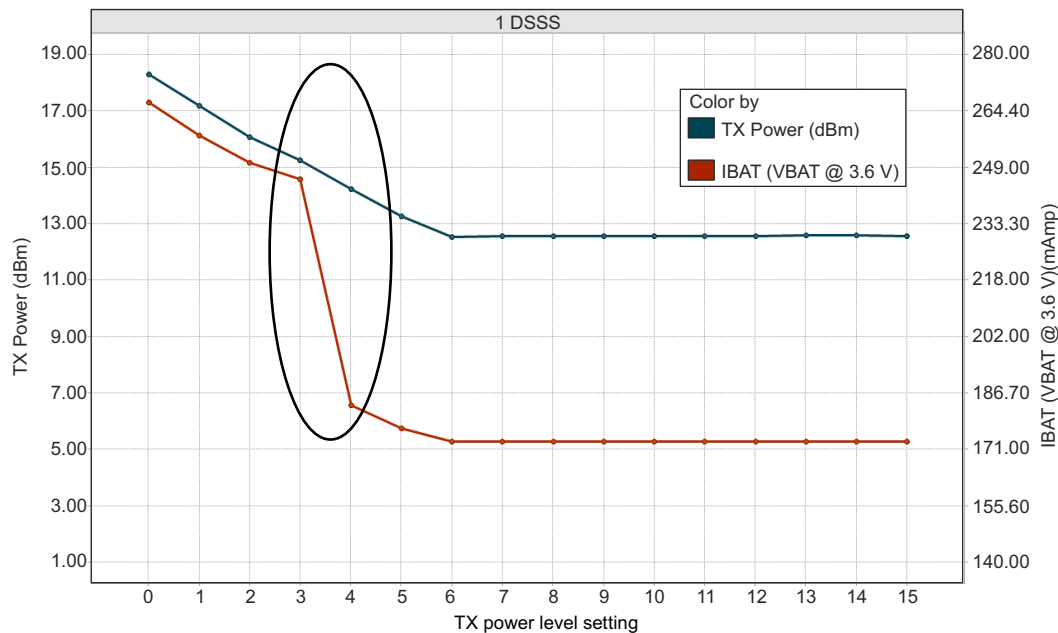

图 8-1. TX Power and IBAT vs TX Power Level Settings (1 DSSS)
- (1) TX power level = 0 implies maximum power (see 图 8-1, 图 8-2, and 图 8-3). TX power level = 4 implies output power backed off approximately 4 dB.
- (2) LPDS current does not include the external serial Flash. The LPDS number of reported is with retention of 256KB of MCU SRAM. The CC3220x device can be configured to retain 0KB, 64KB, 128KB, 192KB, or 256KB of SRAM in LPDS. Each 64-KB block of MCU retained SRAM increases LPDS current by 4 μA.
- (3) DTIM = 1
- (4) The complete calibration can take up to 17 mJ of energy from the battery over a time of 24 ms. In default mode, calibration is performed sparingly, and typically occurs when re-enabling the NWP and when the temperature has changed by more than 20°C. There are two additional calibration modes that may be used to reduced or completely eliminate the calibration event. For further details, see CC3120, CC3220 SimpleLink™ Wi-Fi® and IoT Network Processor Programmer's Guide.
- (5) The CC3220x system is a constant power-source system. The active current numbers scale based on the VBAT voltage supplied.
- (2) LPDS current does not include the external serial flash. The LPDS number of reported is with retention of 256KB of MCU SRAM. The CC3220x device can be configured to retain 0KB, 64KB, 128KB, 192KB, or 256KB of SRAM in LPDS. Each 64-KB block of MCU retained SRAM increases LPDS current by 4  $\mu\text{A}$ .
- (4) The complete calibration can take up to 17 mJ of energy from the battery over a period of 24 ms. Calibration is performed sparingly, typically when coming out of HIBERNATE and only if temperature has changed by more than 20°C. The calibration event can be controlled by a configuration file in the serial Flash..
图 8-1, 图 8-2, and 图 8-3 show TX Power and IBAT versus TX power level settings for the CC3220R and CC3220S devices at modulations of 1 DSSS, 6 OFDM, and 54 OFDM, respectively. For the CC3220SF device, the IBAT current has an increase of approximately 10 mA to 15 mA depending on the transmitted rate. The TX power level will remain the same.
In 图 8-1, the area enclosed in the circle represents a significant reduction in current during transition from TX power level 3 to level 4. In the case of lower range requirements (14-dBm output power), TI recommends using TX power level 4 to reduce the current.